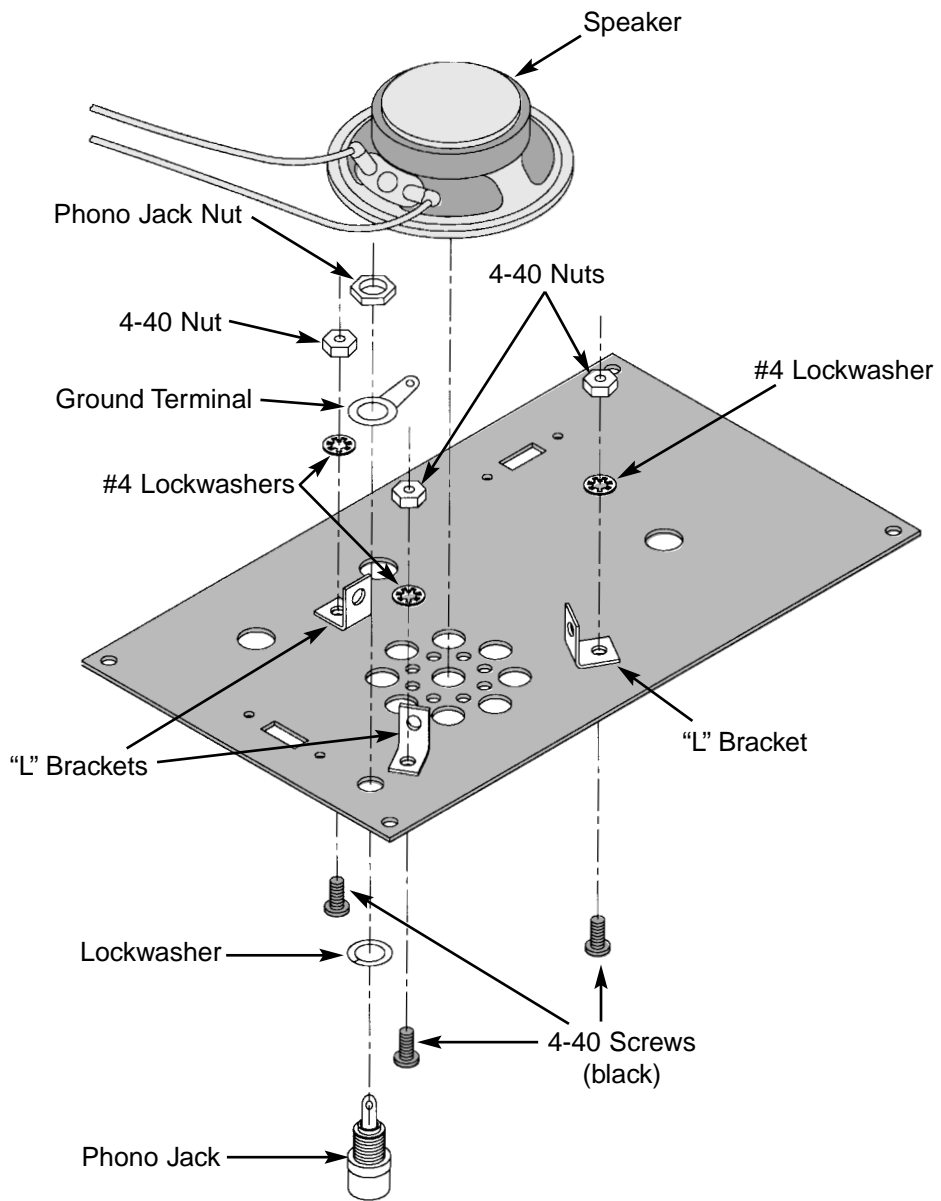
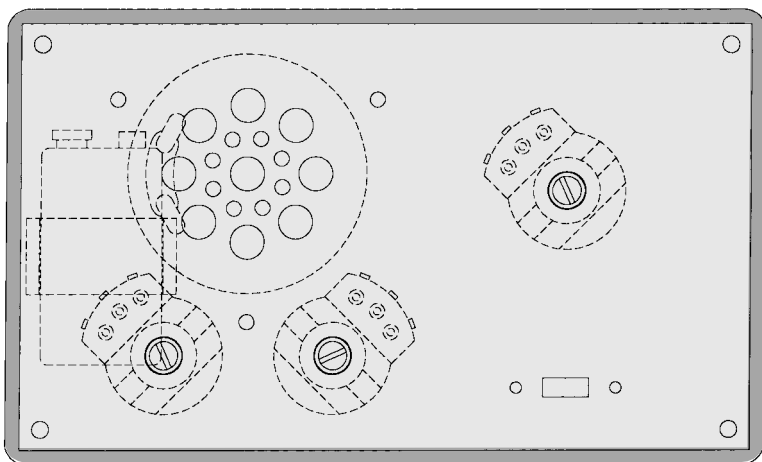
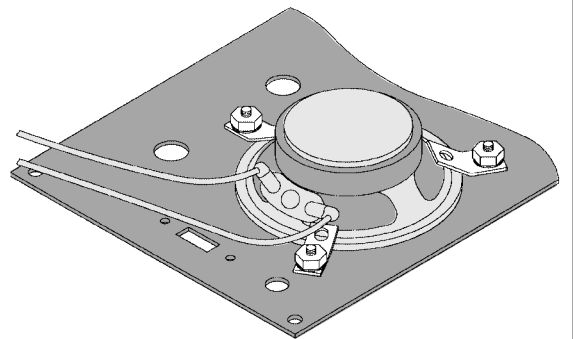
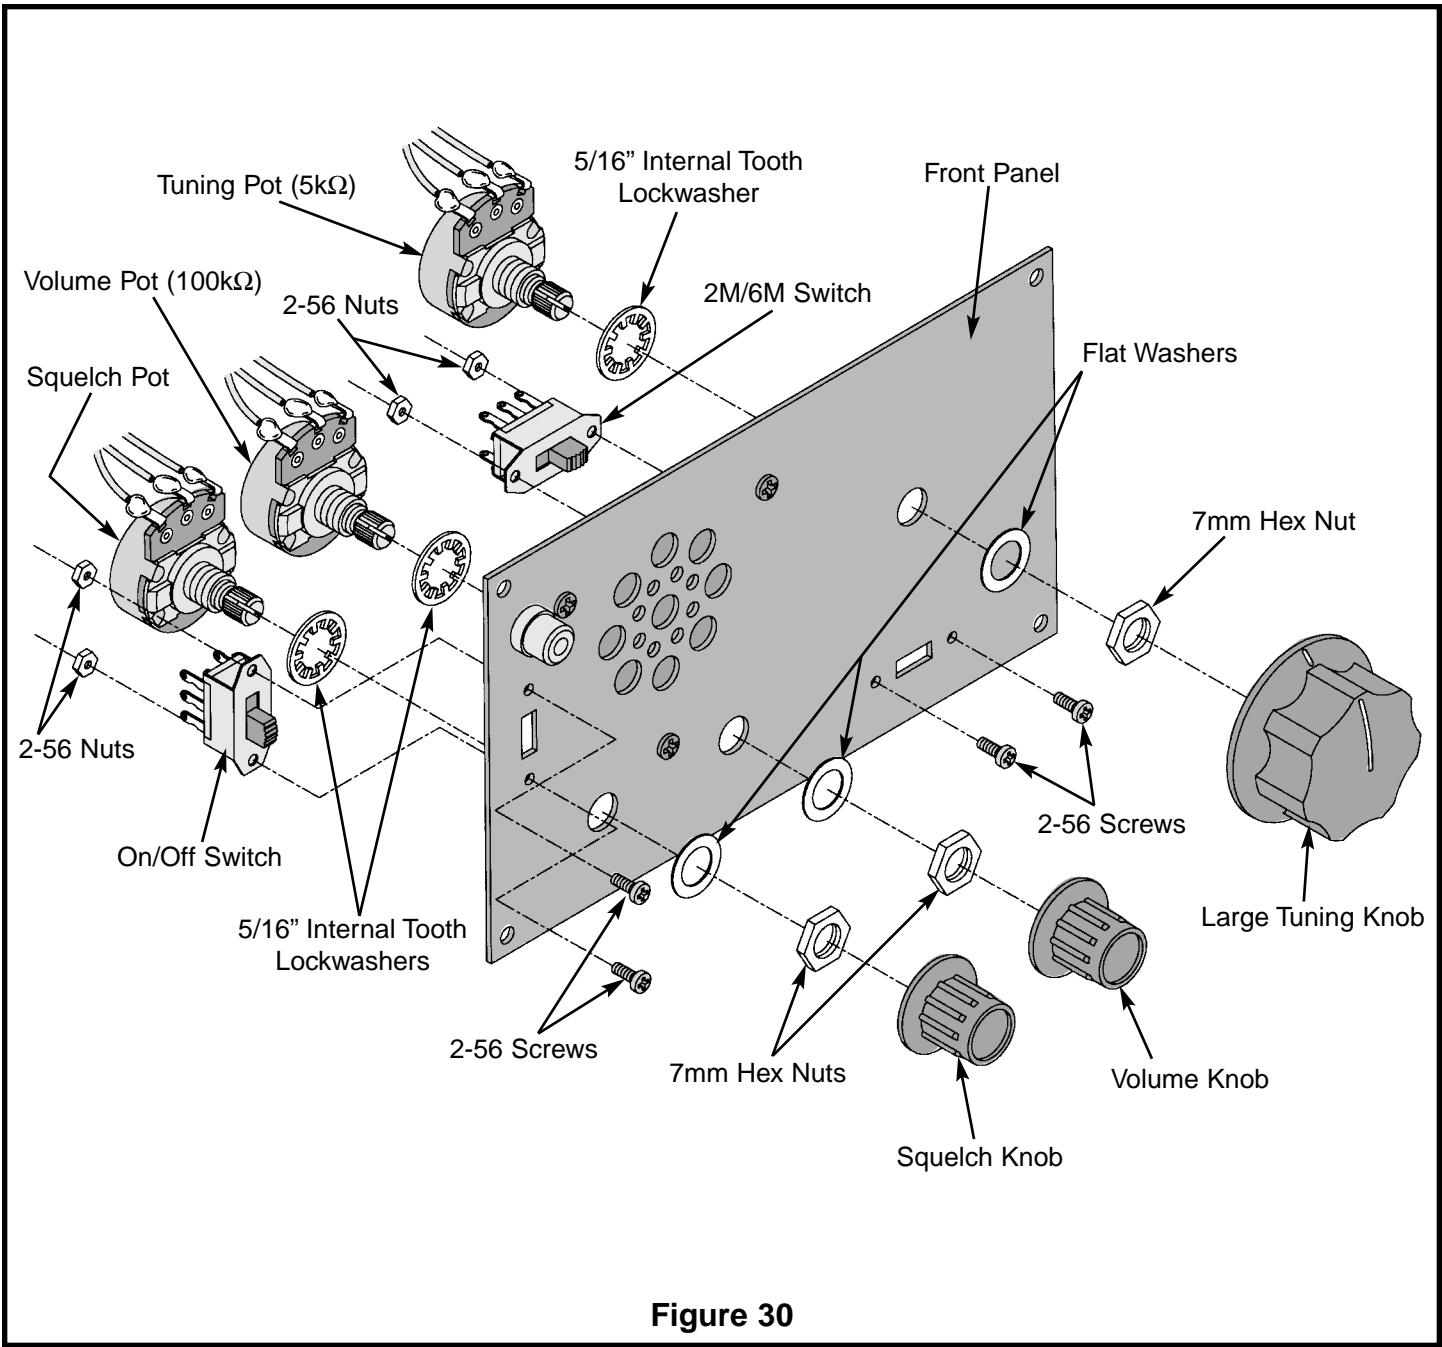

Figure 27
Figure 28
Figure 29
Figure 30
- The speaker mounts behind the cluster of holes as shown in Figure 27. Using the three black 4-40 screws, 4-40 nuts and #4 internal tooth washers, mount the three small right angle brackets to the speaker mounting holes. The short side of the brackets should be against the panel. Place the speaker between the brackets with the terminals oriented as shown in Figure 28. Use a blunt tool to bend the brackets over the speaker as shown in Figure 29.
- Using the hardware shown, mount the phono jack as shown in Figure 27.
- Using the hardware shown, mount the ON/OFF switch, 2M/6M switch, Squelch pot, Volume pot, and Tuning pot to the front panel (see Figure 30). Orient the terminals as shown in Figure 28.
- Peel the backing off of the other side of the double-sided tape and stick it to the inside bottom of the plastic case as shown in Figure 28.